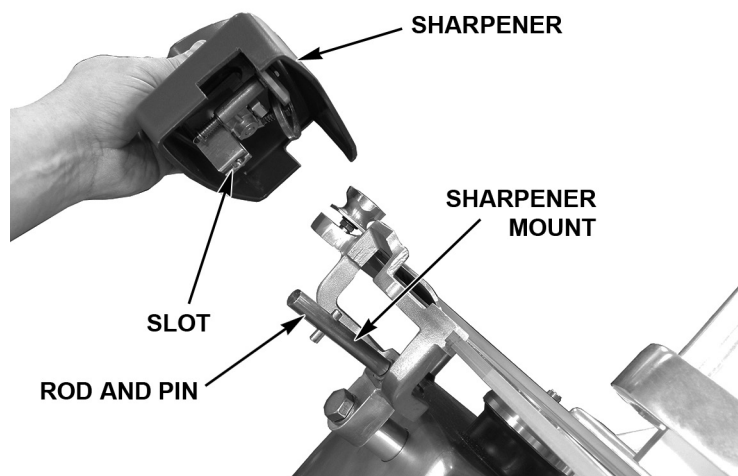

Fig. 17
- Install the Sharpener by lowering it so the Slot on the Sharpener fits onto the Rod and Pin of the Sharpener Mount (Fig. 17).